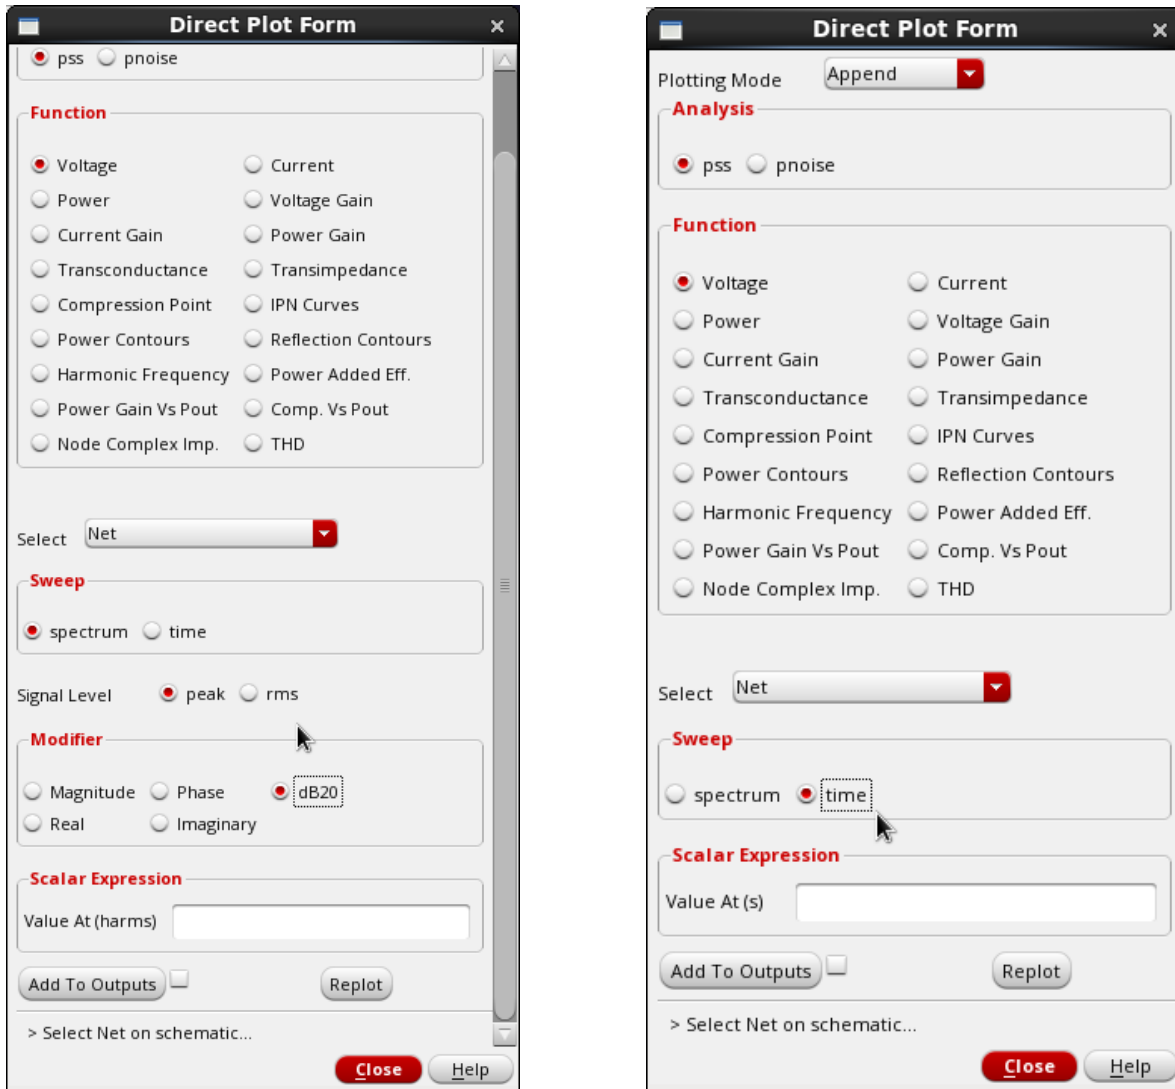

Fig. 6
You will now simulate the phase noise, which is done with periodic steady-state analysis (pss) followed by a periodic noise analysis (pnoise). A number of parameters need to be specified prior to the analysis, see Fig. 5 and Fig. 6.
- From Results/Direct Plot/PSS, plot the spectrum in dB20 and the voltage in time domain (Fig. 6). Also report total harmonic distortion (THD). Other than the fundamental tone, which harmonic is the strongest? How much weaker than the fundamental tone is it?